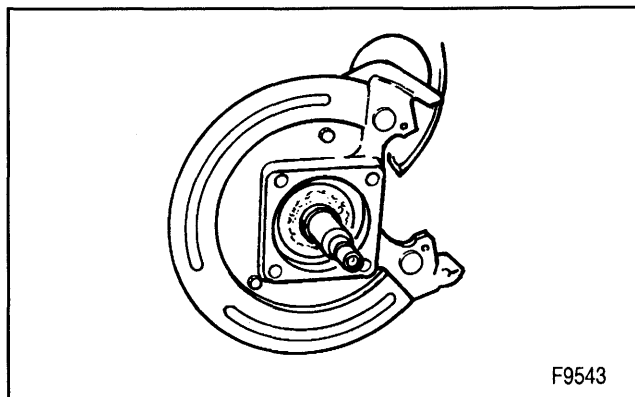

Figure 33—Front Axle Assembly (K-3)
3. Stud (112) using J 6627-A (figure 33).